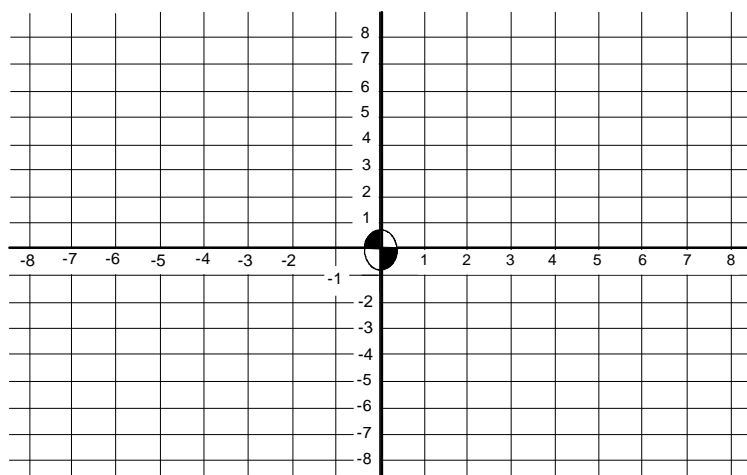

FIGURE 1-3
All programs written for an Okuma will use a method of programming called **absolute**. In absolute programming the lines for each graduation on the number line can be carried out to give you a grid of real points that represent actual dimensions. Figure 1-3 shows an example.
The diagram in Figure 1-3 shows many one (1) inch squares. If you were to zoom in on one of these squares you would see that each is divided into smaller squares of .0001. Using Absolute programming gives the ability to "tell" the tool to go to a specific location (or address).